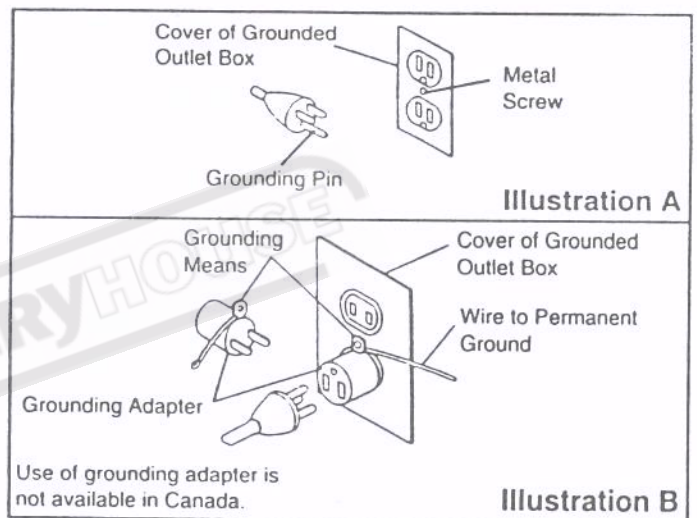

Figure 1
7. This tool is intended for use on a circuit that has an outlet like the one shown in Figure 1, Illustration A. The tool has a grounding plug that looks like the plug illustrated in Figure 1. A temporary adapter, like the one shown in Figure 1, Illustration B, may be used to connect this plug to a 2-pole receptacle as shown in Illustration B if a properly grounded outlet is not available. The temporary adapter should be used only until a properly grounded outlet can be installed by a qualified electrician. The green-colored rigid ear, lug, or wire extending from the adapter must be connected to a permanent ground such as a properly grounded outlet box.